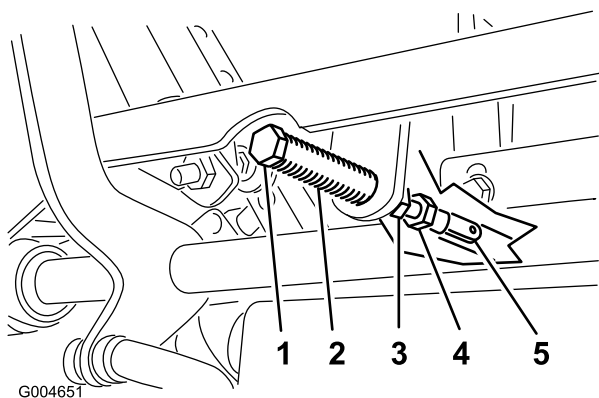

Figure 58
5. Pull the lever back until the clevis pin (on an arm above the pivot shaft) contacts the end of the slot (just beginning to put pressure on the spring) (Figure 58).
7. If adjustment is needed, loosen the nut and jam nut against the yoke (Figure 58).
8. Applying slight rearward pressure on the motion control lever, turn the head of the adjustment bolt in the appropriate direction until the control lever is centered in the neutral lock position (Figure 58).
9. Tighten the nut and jam nut (Figure 58).
9. Tighten the jam nuts at the ball joints (Figure 58).